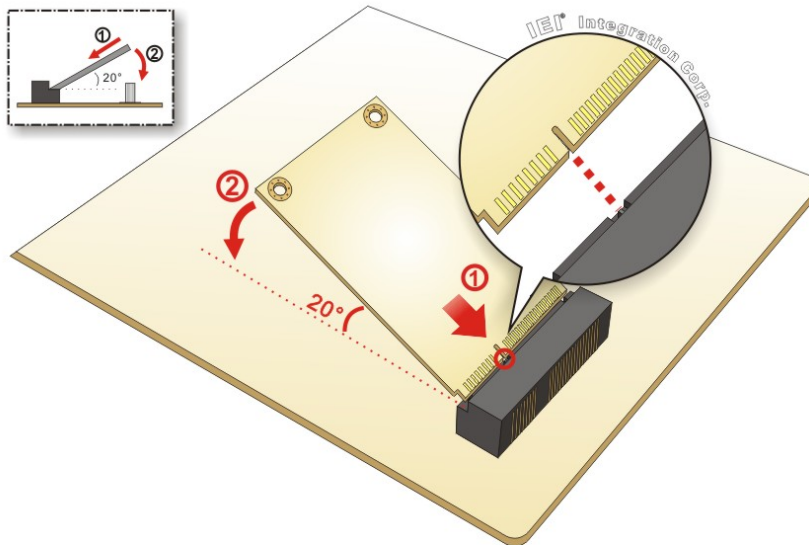

Figure 4-3: Inserting the PCIe Mini Card into the Slot at an Angle
Step 3: Insert into the socket at an angle. Line up the notch on the card with the notch on the slot. Slide the PCIe Mini card into the socket at an angle of about 20° (Figure 4-3).